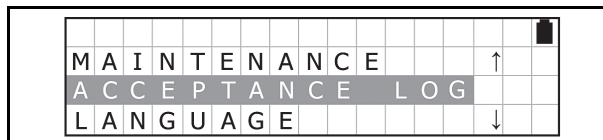

Figure 41 Function Selection Screen 7
- Select "ACCEPTANCE LOG" from the Function Selection Screen and press the OK Key  to select it (See Figure 41).